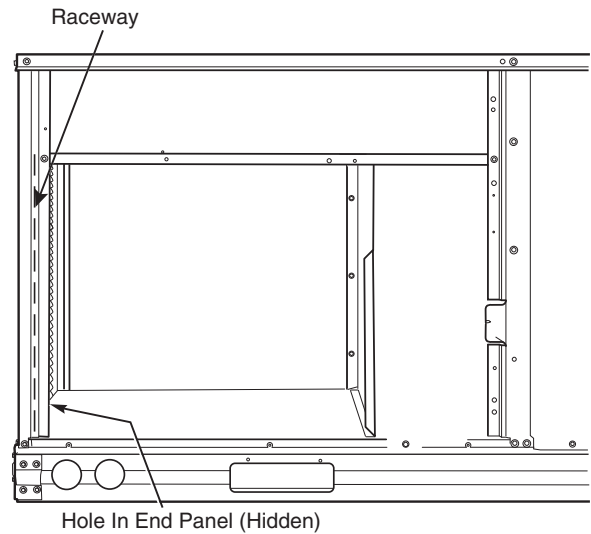

Fig. 29 — Field Control Wiring Raceway
Pass the thermostat control wires through the hole provided in the corner post; then feed the wires through the raceway built into the corner post to the control box. Pull the wires over to the terminal strip on the upper-left corner of the Unit Control Board. See Fig. 29.
2. Feed wires through the raceway built into the corner post (see Fig. 29) to the 24v barrier located on the left side of
2. Feed wires through the raceway built into the corner post (see Fig. 29) to the 24-v barrier located on the left side of the control box. The raceway provides the UL-required clearance between high-voltage and low-voltage wiring.